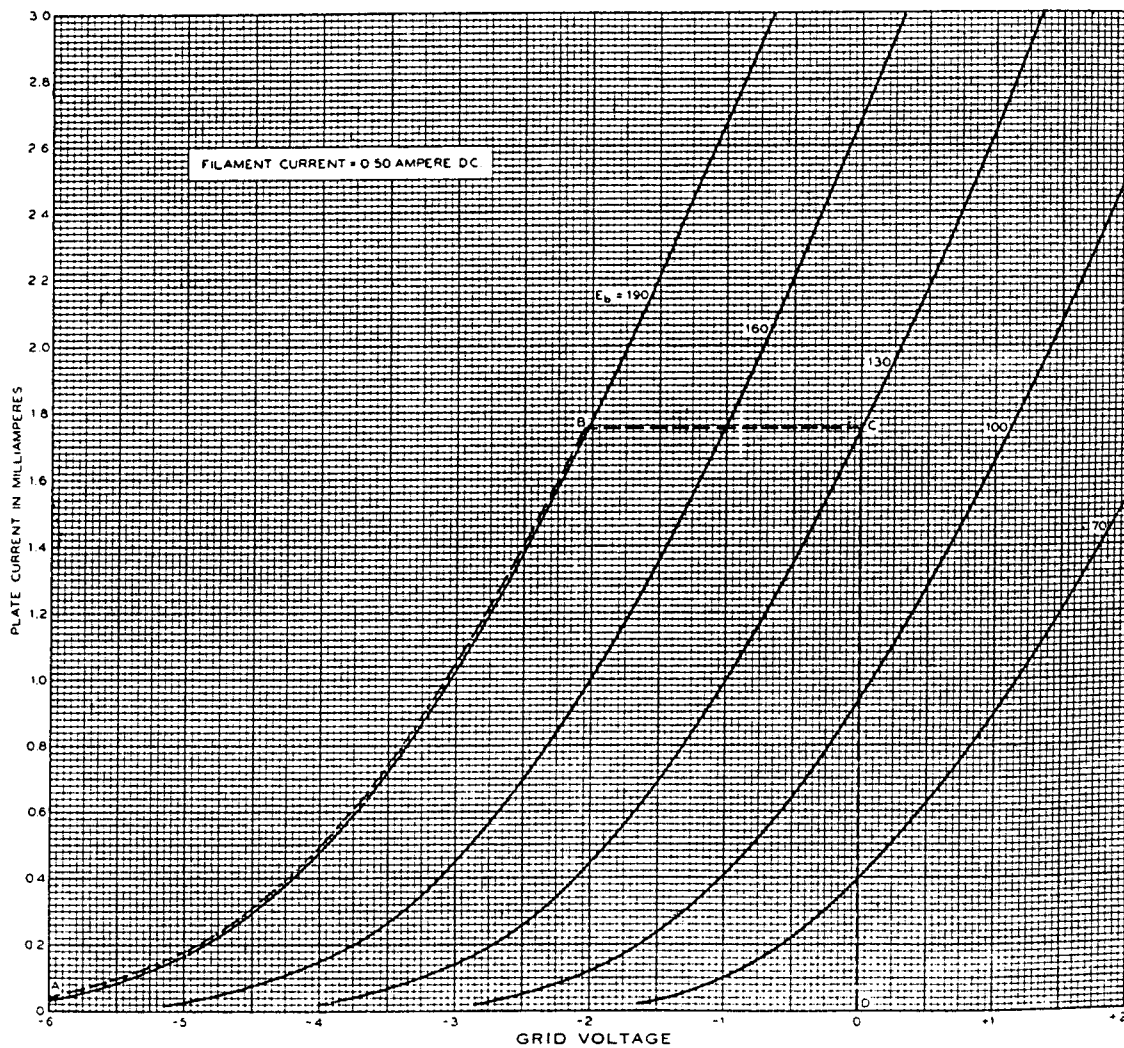
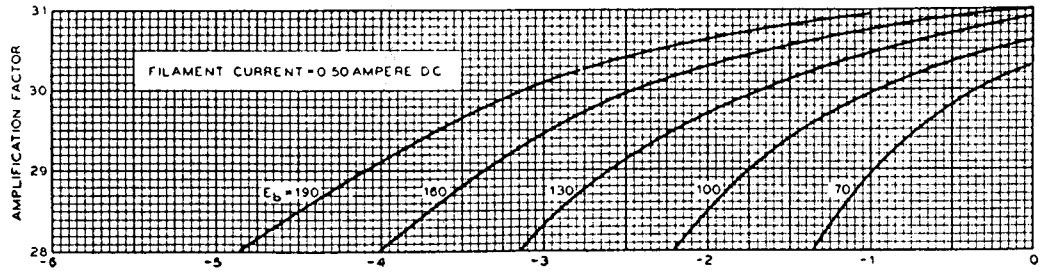
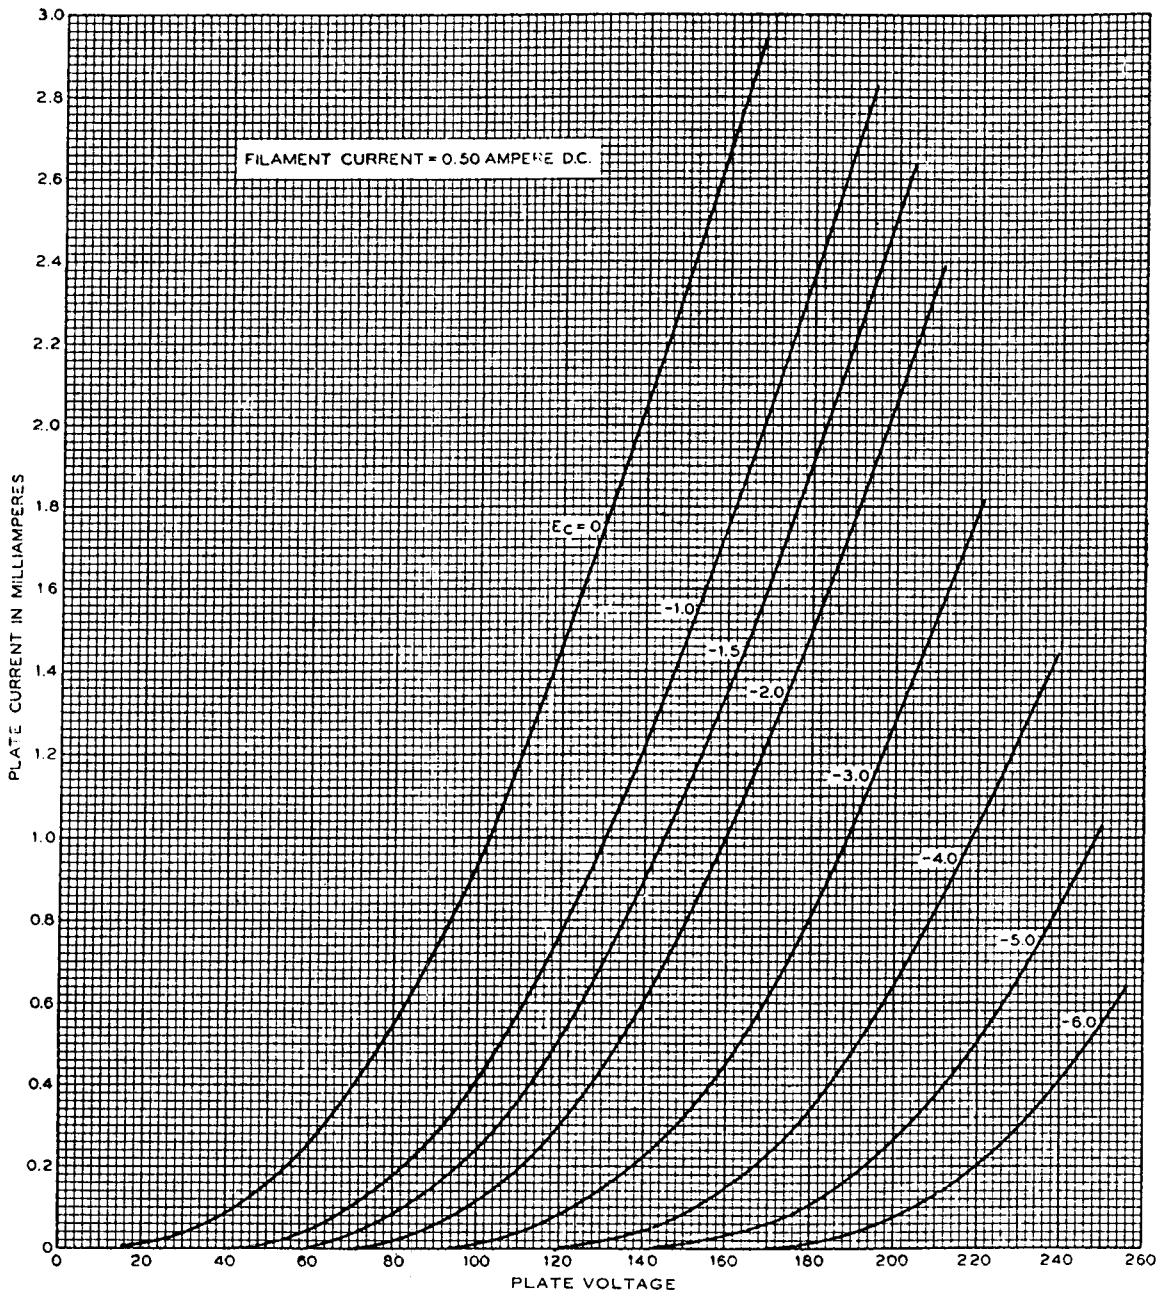

FIG. 3
FIG. 4
FIG. 7
**Characteristics**—Plate current characteristics of a typical 102F tube are shown in Figure 3 as functions of grid voltage for several values of plate voltage. The grid and plate voltages are measured from the negative end of the filament. Corresponding amplification factor, plate resistance, and transconductance characteristics are given in Figures 4, 5 and 6, respectively. Plate current characteristics as functions of plate voltage are shown in Figure 7 for several values of grid voltage.
**Operating Conditions and Output**—Permissible operating plate and grid voltages are included within the area, ABCD, in Figure 3. Amplification factor, plate resistance, transconductance, and performance data are given in the table on page 3 for a number of typical operating conditions represented by selected points within this area. The less severe operating conditions should be selected in preference to maximum operating conditions wherever possible. The life of the tube at maximum conditions may be shorter than at less severe conditions.